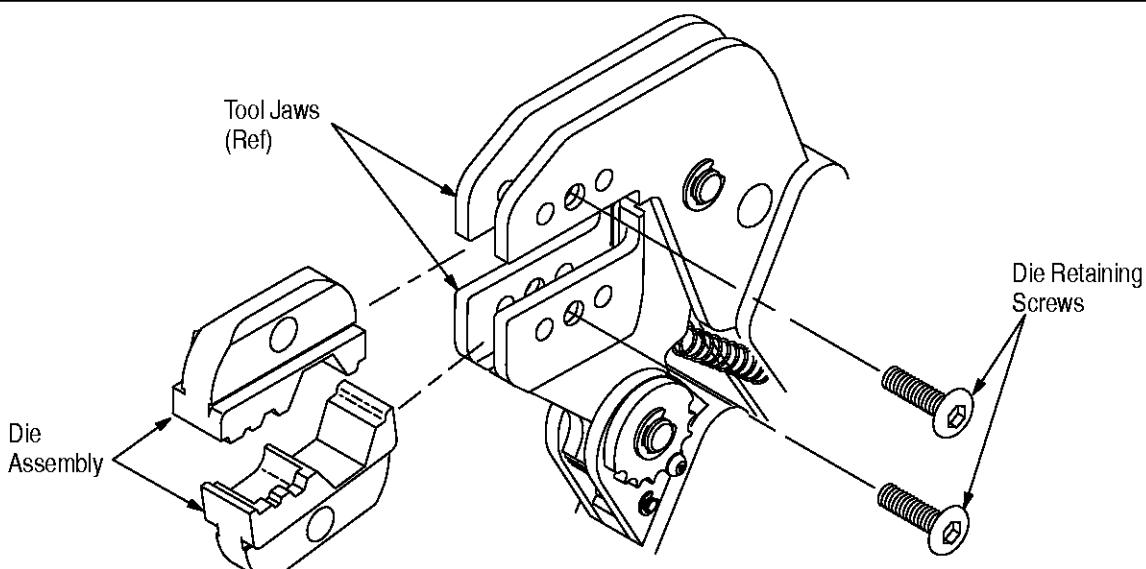

Figure 2
2. Insert the dies into the tool jaws as shown in Figure 2, and align the die retaining holes in each die with the associated holes in the tool.